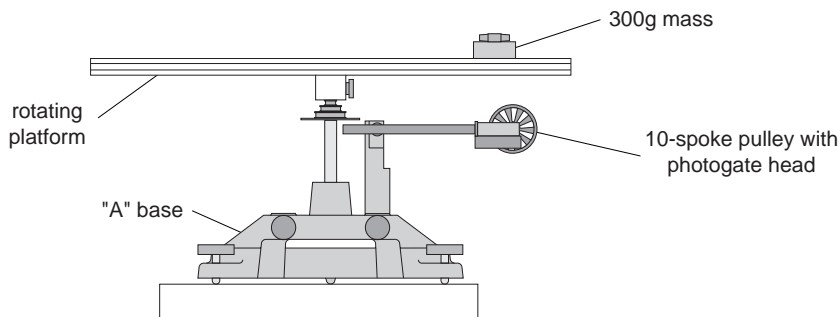

Figure 2.2: Rotational inertia of a point mass
- ① Attach the square mass (point mass) to the track on the rotating platform at any radius you wish.
- ② Mount the Smart Pulley to the base and connect it to a computer. See Figure 2.2.
- ③ Run the Smart Pulley Timer program.